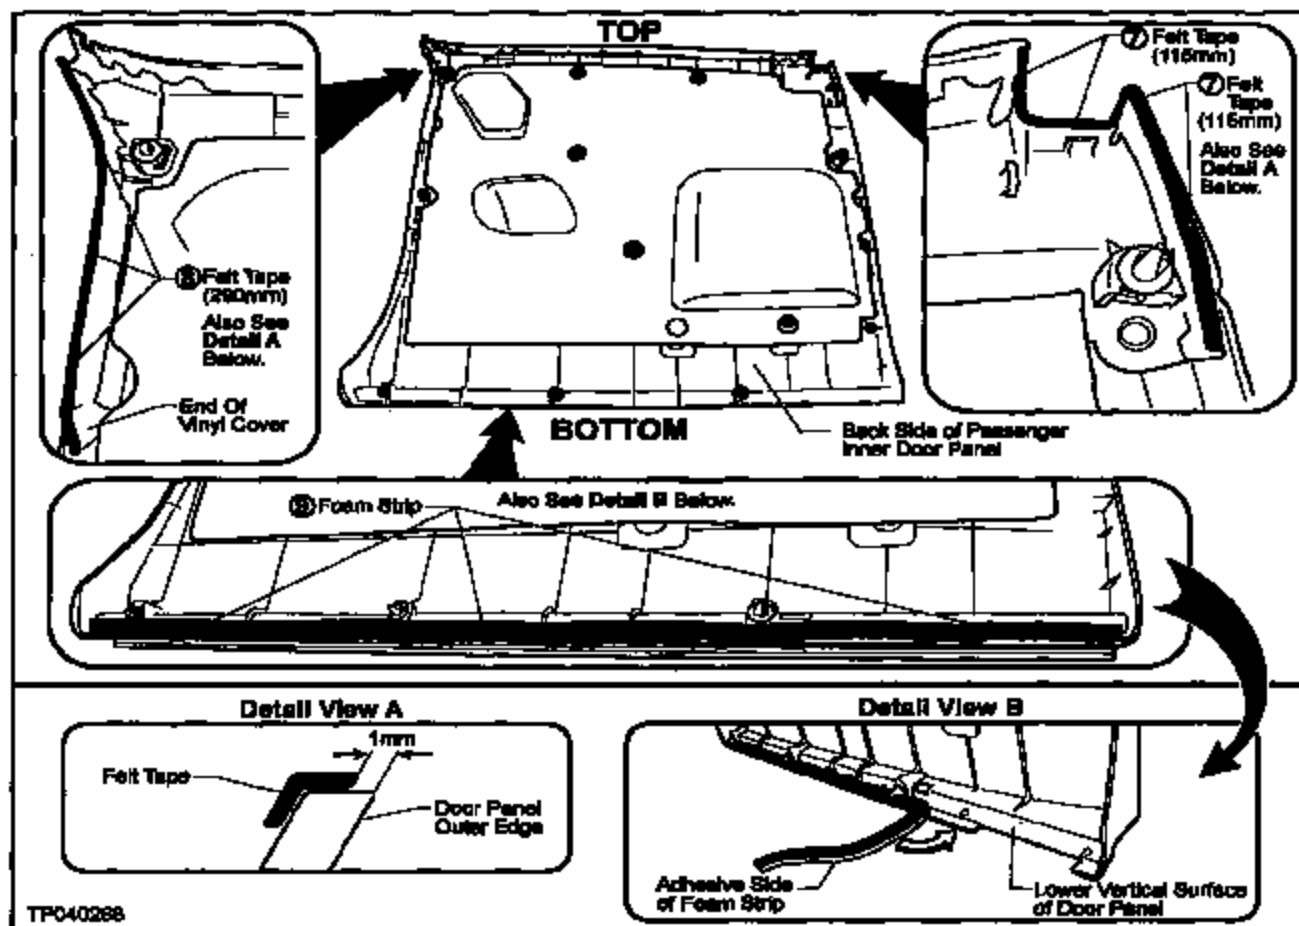

Figure J25
29. Install Felt Tape (#7 and #8 in Figure J1) to the upper front and upper rear sections of the Door Panel (see Figure J25).
- Make sure the Felt Tape is placed 1mm from the outer edge of the Door Panel (see Detail View A in Figure J25).
30. Install the Foam Strip (#9 in Figure J1) along the lower edge of the Door Panel (see Figure J25).
- Make sure the adhesive-side of the Foam Strip is applied to the lower vertical surface of the Door Panel (see Detail View B in Figure J25).